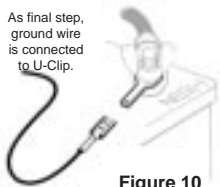

Figure 10
7. Connect PriorityStart! ground wire connector to installed U-Clip [Fig. 10].